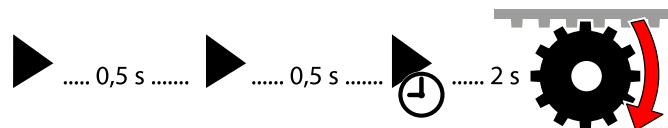

Fig. 101: Limit position setting – Setting right limit position
3. Press the following key combination to save the right limit position (see Fig. 101):